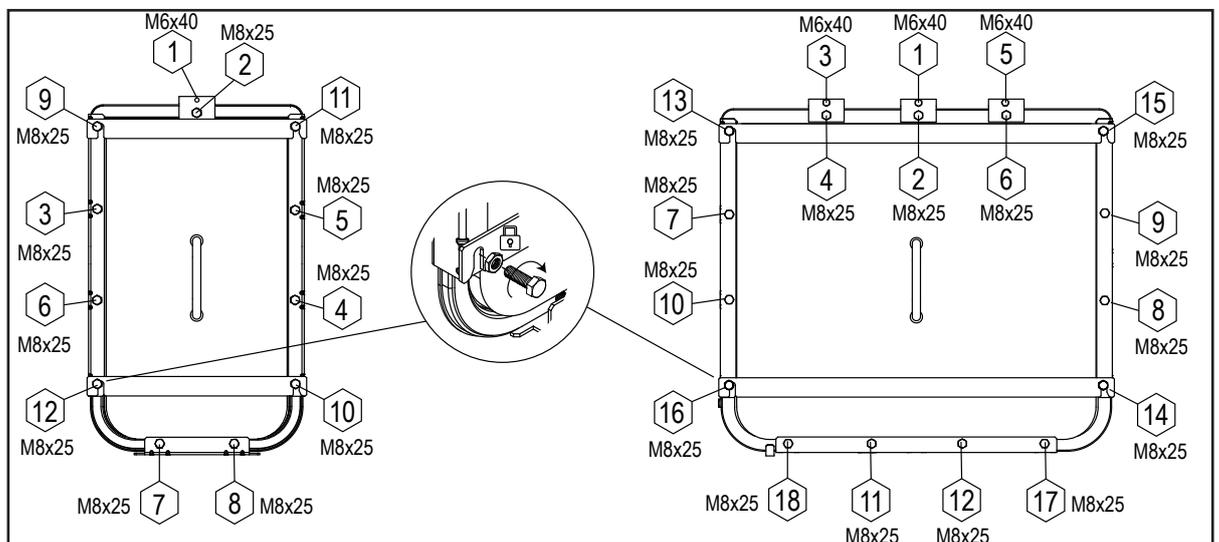

Figure 12: Torquing the Tank Doors. Small and Large Doors Shown.
**Note:** The order of installation/torquing of the bolts for the tank cover are shown in the hexagonal symbols in Figure 12 on page 57. Tighten bolts with your fingers and torque at the end of assembly.